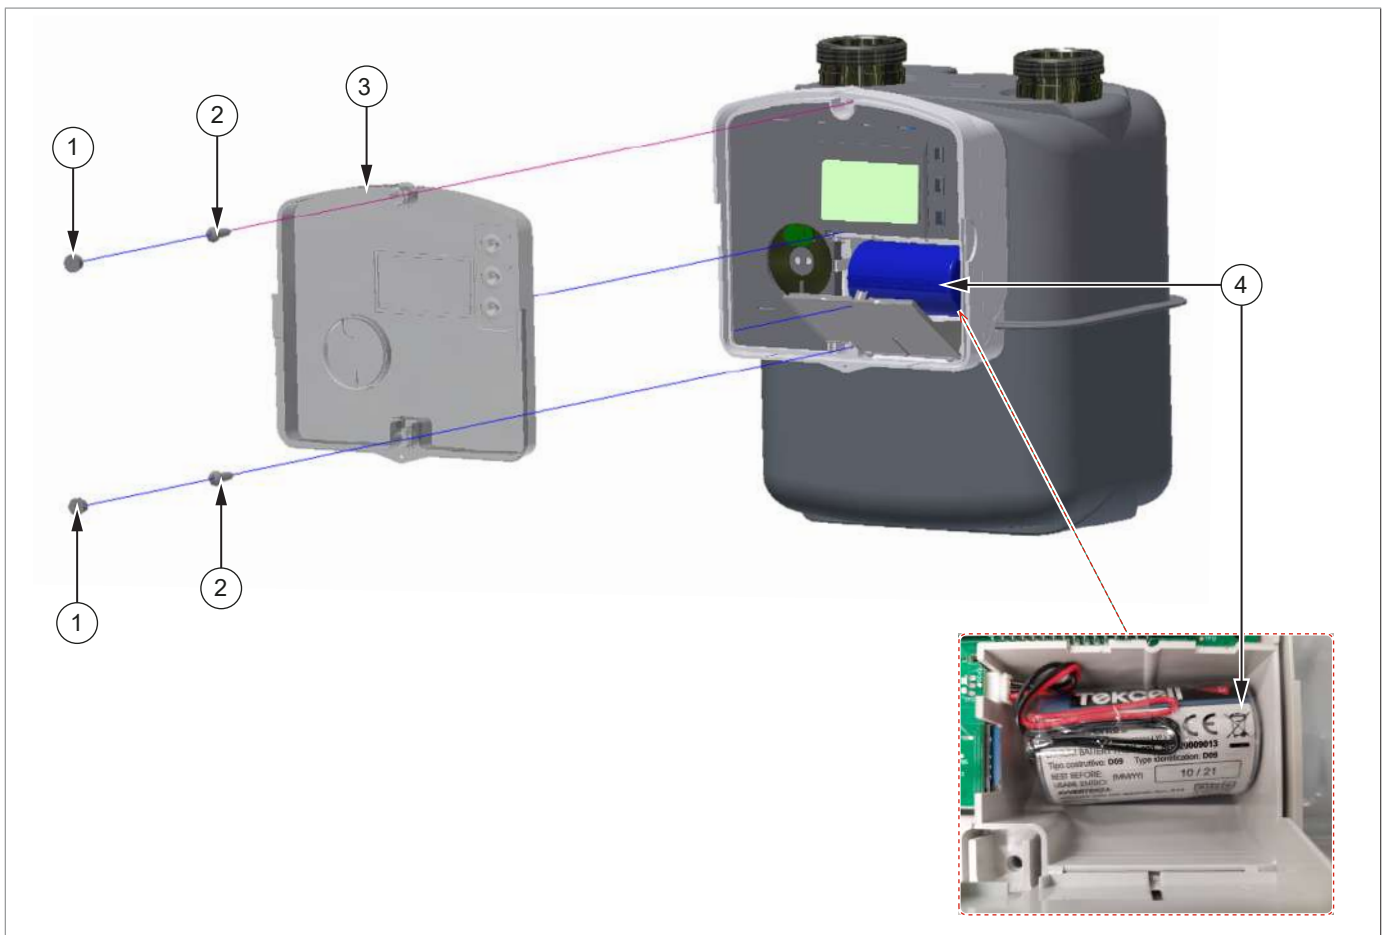

Fig. 11.13. Spare parts
- a position specified in the assembly drawing of the equipment (Fig.11.13.);
Reference to battery order codes (Pos. 4 - Fig. 11.13.) spare parts: